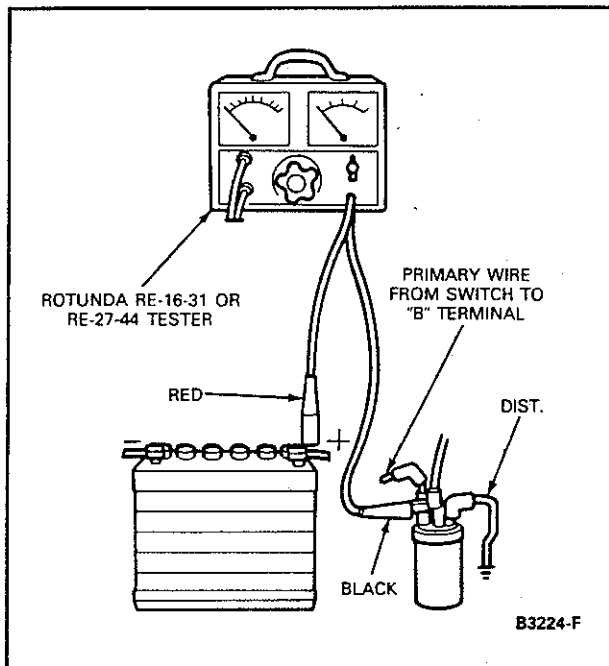

Figure 5 Battery-to-Coil and Starting Ignition Circuit Test
1. Connect the voltmeter leads as shown in Figure 5.